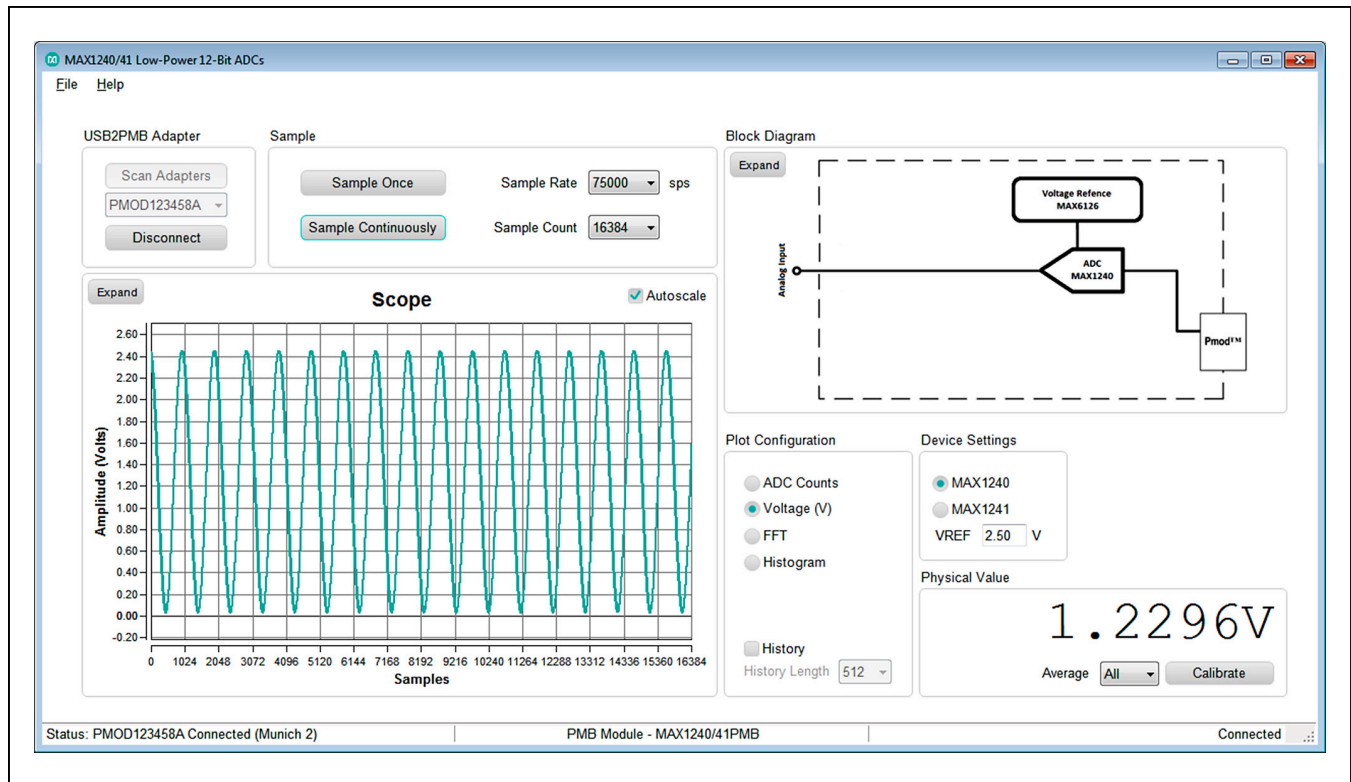

Figure 1. 1240 EV Kit Main Window
- 5) Open the GUI, MAX1240EVKit.exe (Figure 1).